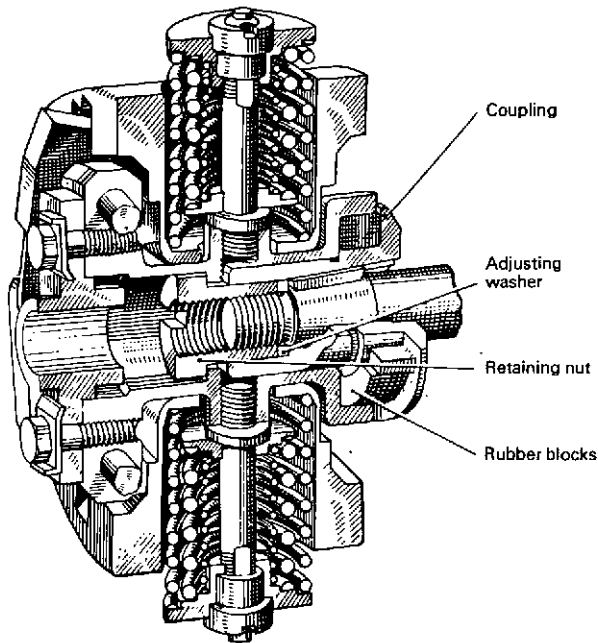

Fig. 49 Flyweight assembly - sectioned.
2. Fit the guide bush, tighten its securing bolts (fig. 42, Item 'D') and bend up their locking tabs. A sectioned view of the governor assembled to this stage is shown in fig. 49.